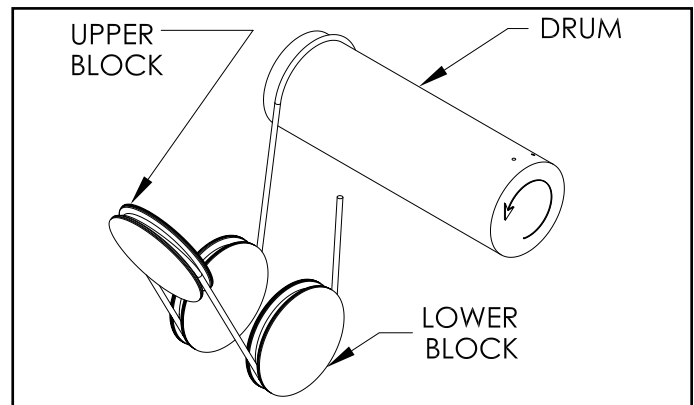

Figure 5-5a. Reeving Diagram - 4 Part Single Reeved. (Note: Arrow on Drum Indicates Direction of Drum when Lowering.)
b) Before removing the old rope, refer to reeving diagram, Figures 5-5a & 5-5b. To assist with re-reeving your hoist, refer to the reeving diagram and corresponding paragraph that describes the reeving procedure.